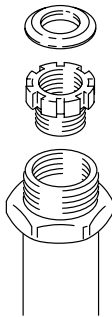

Fig. 29 02572
- Loosely install the packing nut and plug. See Fig. 29.